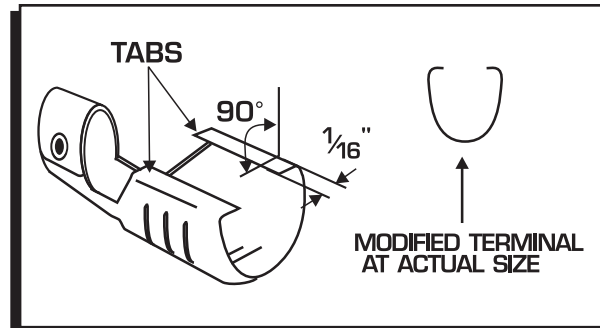

Figure 3 Stripping the Sleeve.
4. To achieve the strongest crimp possible, it is required to bend the crimp tabs over about 90° using needle nose pliers. Figure 3 shows an example.